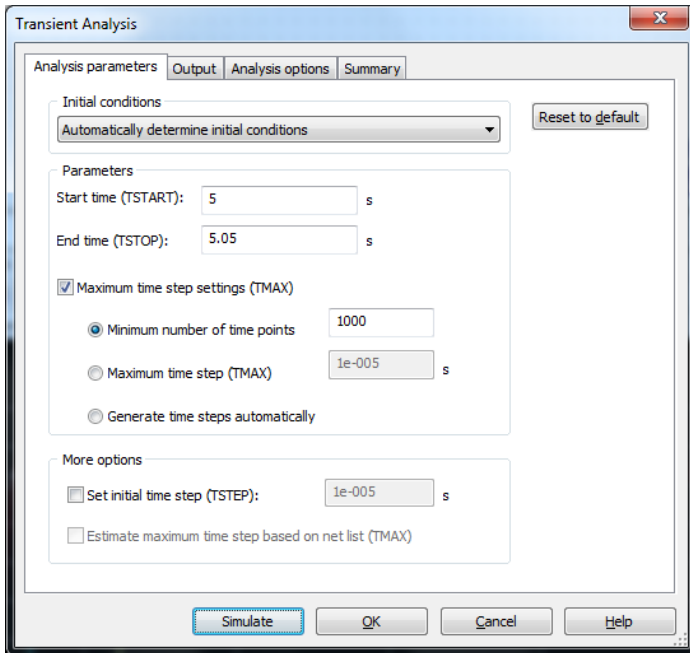

Figure 9
- It takes a long time for the 470 μF capacitor to charge so you should start displaying data to the graph at 5 seconds. Figure 9 on page 5 shows the transient values. It takes at least 10 s to run the simulation.